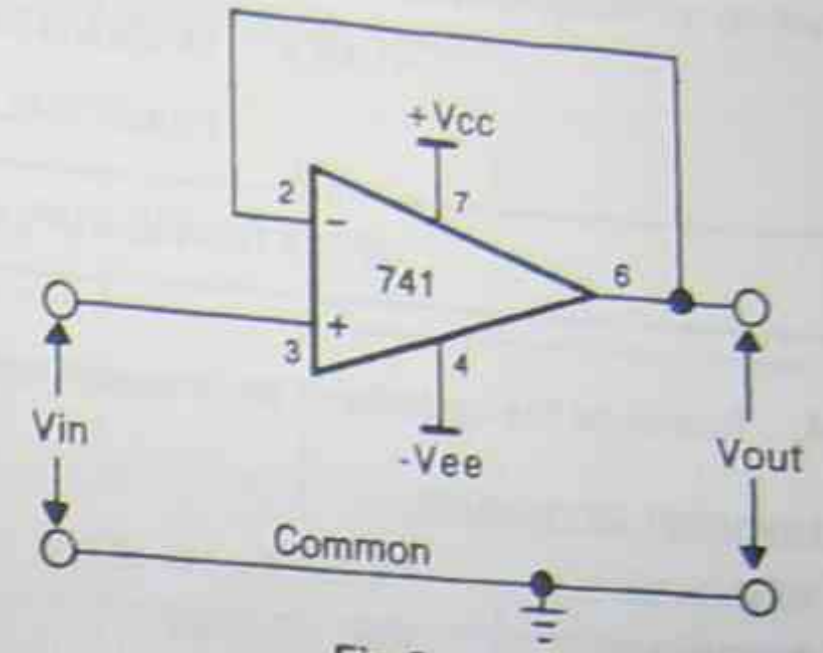

Fig.3
- Connect the circuit of Fig.3. Note that the circuit uses a 741 op amp.